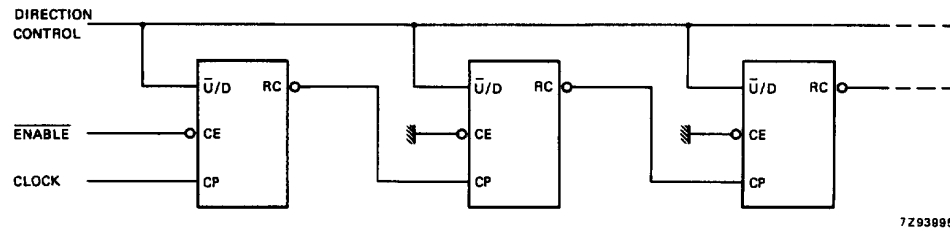
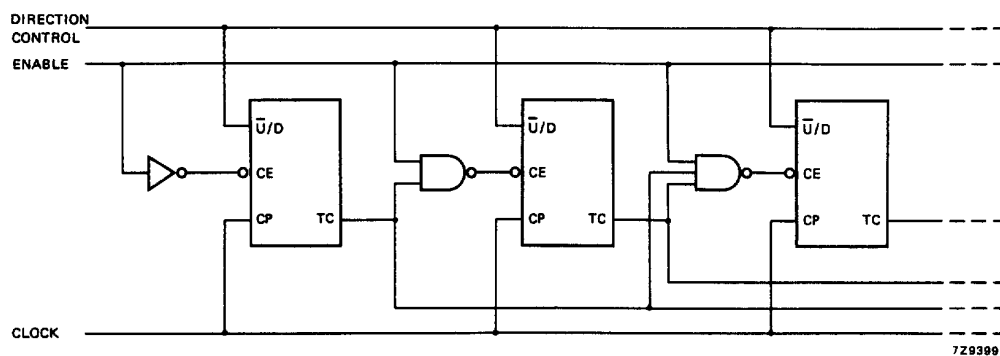

Fig.5 N-stage ripple counter using ripple clock.
Fig.7 Synchronous n-stage counter with parallel gated carry/borrow.
Overflow/underflow indications are provided by two types of outputs, the terminal count (TC) and ripple clock ($\overline{RC}$). The TC output is normally LOW and goes HIGH when a circuit reaches zero in the count-down mode or reaches "9" in the count-up-mode. The TC output will remain HIGH until a state change occurs, either by counting or presetting, or until $\overline{U/D}$ is changed. Do not use the TC output as a clock signal because it is subject to decoding spikes. The TC signal is used internally to enable the $\overline{RC}$ output. When TC is HIGH and $\overline{CE}$ is LOW, the $\overline{RC}$ output follows the clock pulse (CP). This feature simplifies the design of multistage counters as shown in Figs 5 and 6.
In Fig.5, each $\overline{RC}$ output is used as the clock input to the next higher stage. It is only necessary to inhibit the first stage to prevent counting in all stages, since a HIGH on $\overline{CE}$ inhibits the $\overline{RC}$ output pulse as indicated in the function table. The timing skew between state changes in the first and last stages is represented by the cumulative delay of the clock as it ripples through the preceding stages. This can be a disadvantage of this configuration in some applications.
In Fig.7, the configuration shown avoids ripple delays and their associated restrictions. Combining the TC signals from all the preceding stages forms the $\overline{CE}$ input for a given stage. An enable must be included in each carry gate in order to inhibit counting. The TC output of a given stage is not affected by its own $\overline{CE}$ signal therefore the simple inhibit scheme of Figs 5 and 6 does not apply.